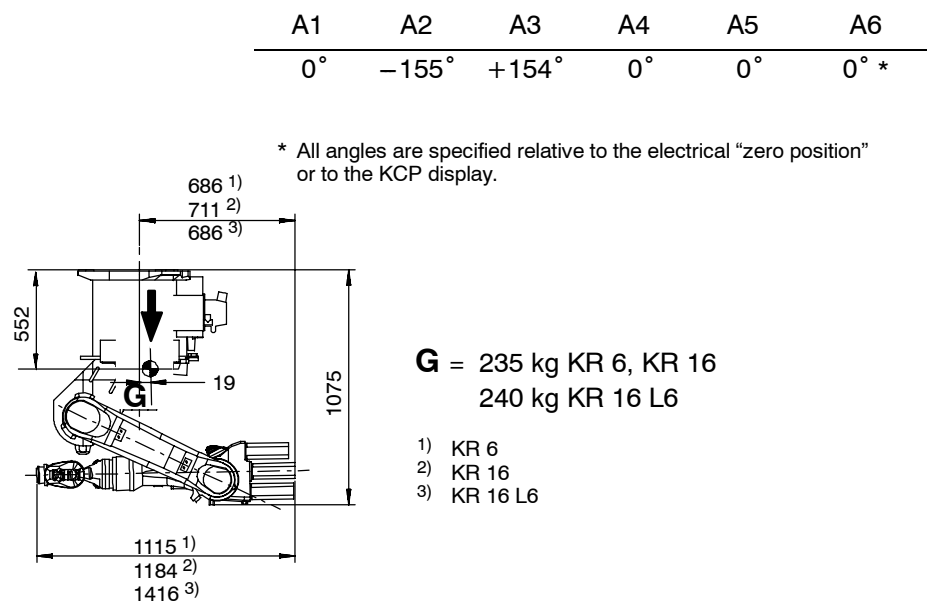

Fig. 45 Transport position for ceiling-mounted manipulators
- (2) Put manipulator into operation and move it into transport position (Fig. 45).